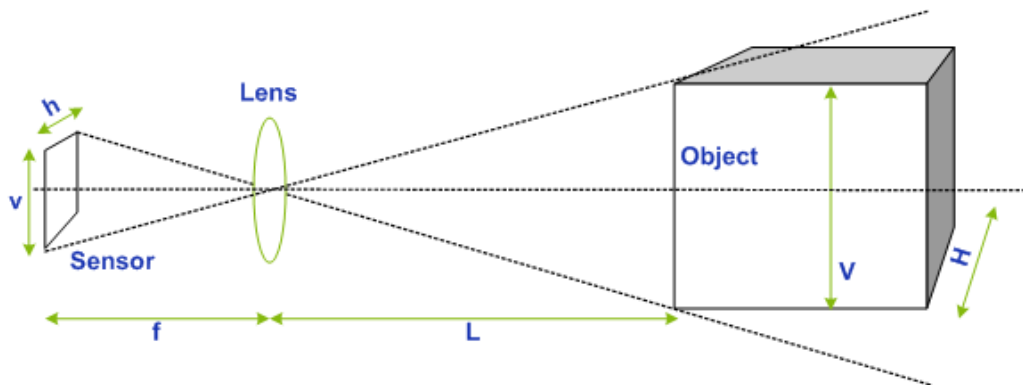

Figure 3-3: Field of View calculation
Normally, the AOV is calculated based on the known focal length and sensor size. This in turn determines the FOV, based on the distance (L) to the object being captured. Figure 3-3 illustrates how the FOV is calculated.